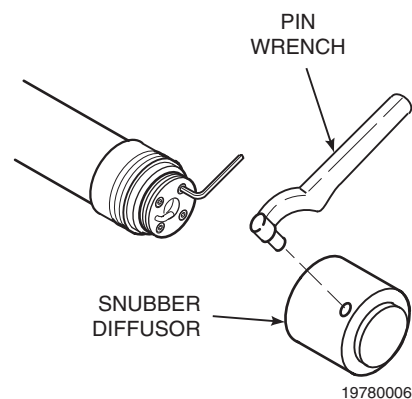

Figure 1-4. Flame Arrestor Diffuser Assembly
- c. **Flame Arrestor Diffuser.** The flame arrestor diffuser, Figure 1-4, protects the cell from heavy particles and isolates the cell from changes in temperature. The assembly consists of a flame arrestor and a snubber diffuser. The flame arrestor and diffuser thread onto the probe tube. Pin spanner wrenches (probe disassembly kit 1L03825G01) are applied to holes in the diffusion element hub to remove or install the diffuser assembly.
- c. A chromel-alumel thermocouple which acts as the sensing element for the temperature controller. (Not visible in Figure 1-4; located within ceramic support rod.)